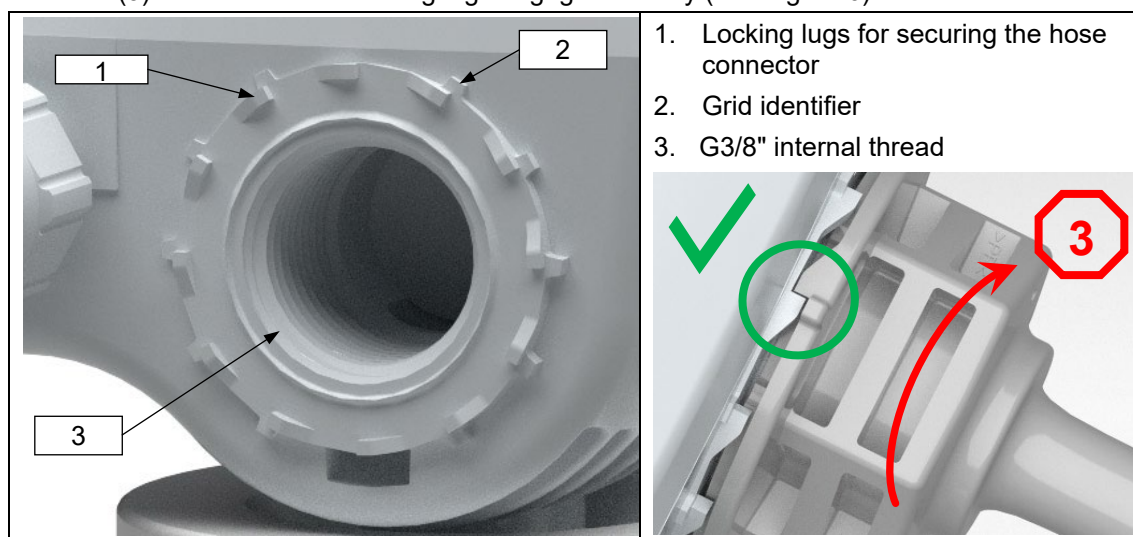

Figure 6
We recommend a tightening torque of 2.3 Nm -0.2 Nm/+0.7 Nm. When the tightening torque is reached, continue turning the hose connector to the next secure locking lug in the tightening direction (3). Ensure that the locking lugs engage correctly (see Figure 6).
Optionally, a hose connection material available on the market can be fitted to the 3/8" thread (Figure 6, item 2) of the head section.
Original elobau hose connectors are available for the G3/8" thread (Figure 6, item 2). These can be acquired separately as accessories in different sizes. (See chapter 8 Accessories and spare parts list).
- *Hose connector must engage as per Figure 6. If this is not the case, continue screwing in the hose connector in the tightening direction until the hose connector visibly engages with the next locking lug on the housing (see Figure 6).*
Hose connection material from other suppliers can be fitted in the G3/8" thread (Figure 6, item 2). A prerequisite is removal of the elobau hose connector. Read the procedure for this in chapter 5.4.2 Assembly and disassembly of the hose connector.